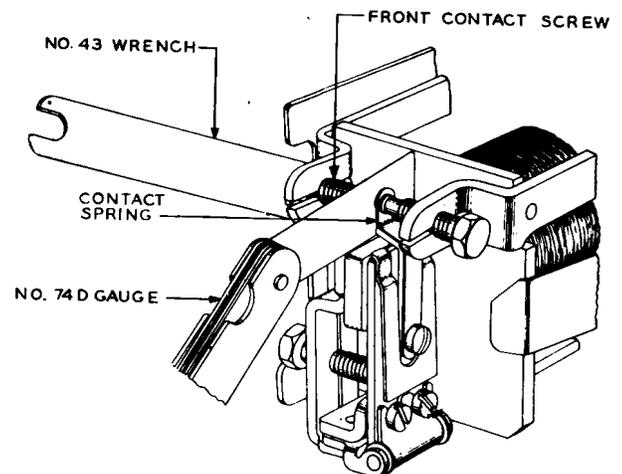

Fig. 17 - Method of Adjusting for Contact Separation
(2) After the armature travel has been set, turn the front contact screw with the No. 43 wrench until the blade of the No. 74D gauge corresponding to the mean value can be inserted between the front contact and the contact spring. With the blade held against the contact spring, turn the front contact screw inward slowly, until it just touches the blade. Check that the contact separation is met. See Fig. 17.